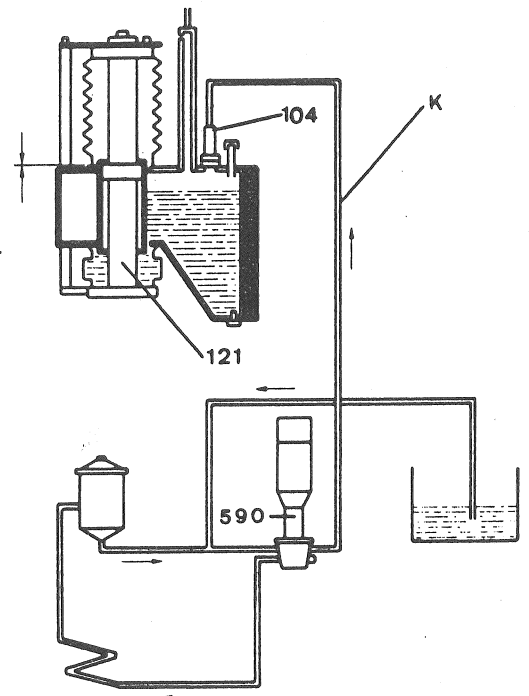

Fig 27
7. Remove the diaphragm plug from the end of pipe (K) and fit this rubber pipe onto nozzle (104) (fig. 27). Start up the pump (590) again by means of switch (823). The piston (121) will then rise automatically to the highest point of its stroke.